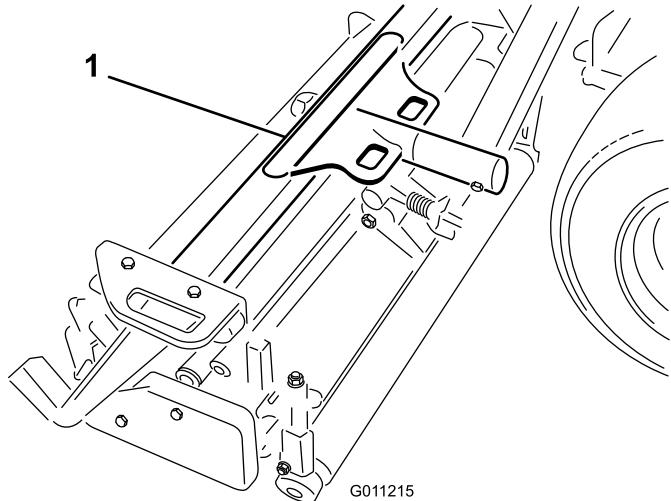
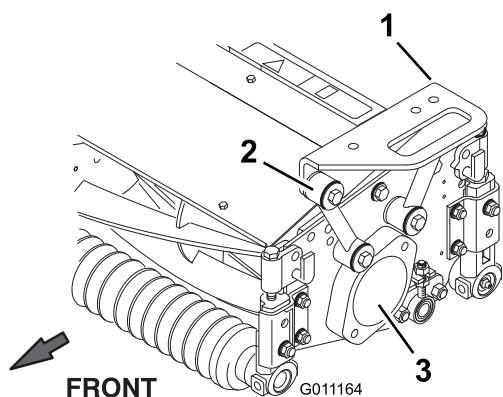

Figure 14
Figure 16
2. Position a front carrier frame (Figure 14) onto each front cutting unit. Align the mounting holes with the mounting links as shown in Figure 16.
3. Position the rear carrier frame (Figure 15) onto the rear cutting unit, and align the mounting holes with the mounting links as shown in Figure 16.
5. Remove the shipping plug from the bearing housings on the remaining cutting units (Figure 16).